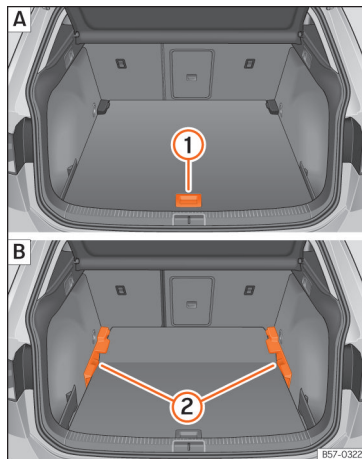

Fig. 170 Variable luggage compartment floor:
- To move from the low position to the high position, lift the floor using the handle »» Fig. 170 ①, and pull it back until the front of the floor has fully passed the supports ②.
- Move the floor forward over the supports as far as the rear seat backrest and then lower the floor with the handle ①.
- To move from the high position to the low position, lift the floor using the handle »» Fig. 170 ①, and pull it back until the front of the floor has fully passed the supports ②.
- Now let the front part fall to the floor and slide the floor forwards as far as the rear seat backrest; lower the floor at the same time with the handle ①.
- Lift the variable floor in the high position using handle »» Fig. 170 ①, pull it up and push it towards the backrest of the rear seats until it folds along the hinge line and the movable part of the floor is resting on itself.
- To move from the high position to the low position, lift the floor using the handle »» Fig. 170 ① and pull it back a little.
- Push the variable floor towards the folded rear seats with the handle ① using some downward pressure so that the moving part of the floor is flush with the backs of the rear seats.